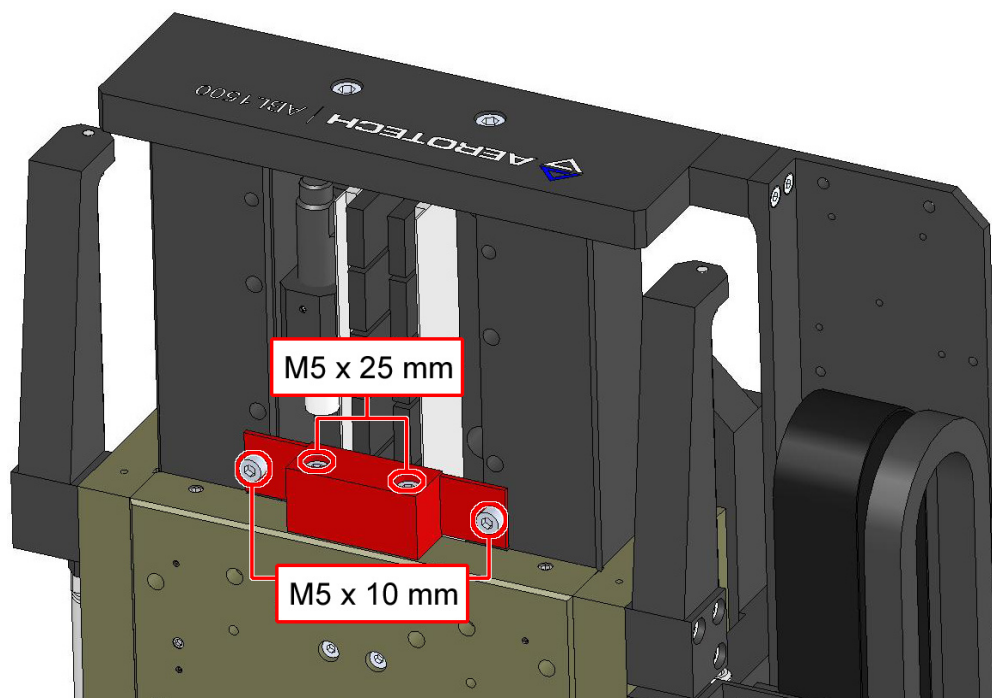

Figure 2-5: Shipping Bracket
3. Loosen, but do not remove, the two M5-0.8x25mm socket head cap screws mounting the shipping bracket to the end of the carriage (Figure 2-5). Loosen the screws by two to three turns (1.6mm to 2.4mm).